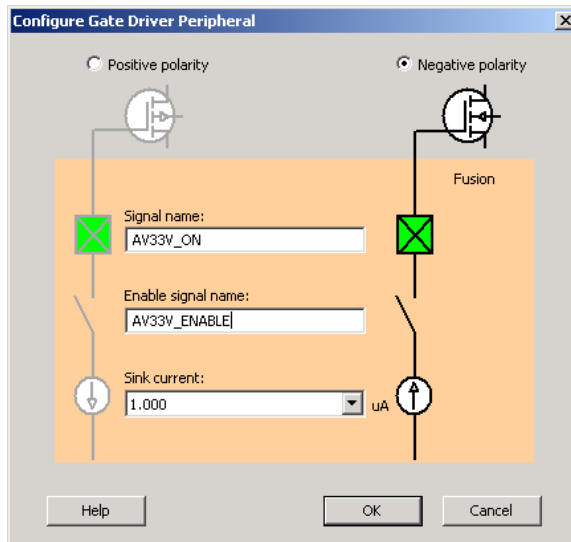

Figure 1-12. Gate Driver Configuration
11. You must add a gate driver to control an external MOSFET pass transistor between the supply side and load side (Figure 1-12 on page 18). Based on the threshold values, you can create turn-on/off conditions for the gate driver in order to control the power supply to the load side.